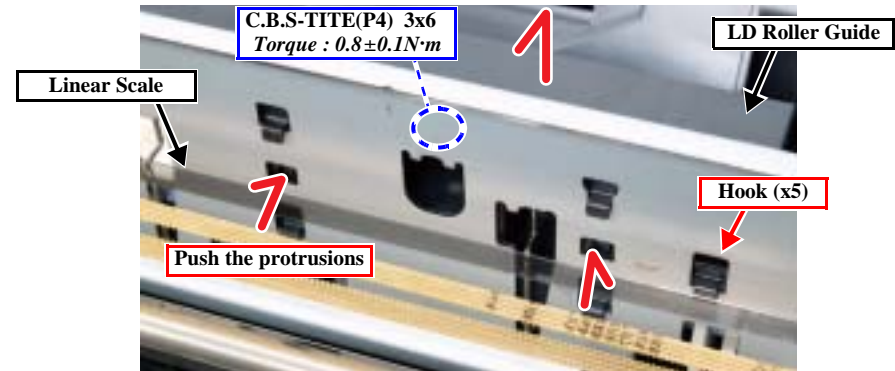

Figure 4-61. LD Roller Guide
4. Remove the screw securing the LD Roller Guide. (Fig. 4-61)